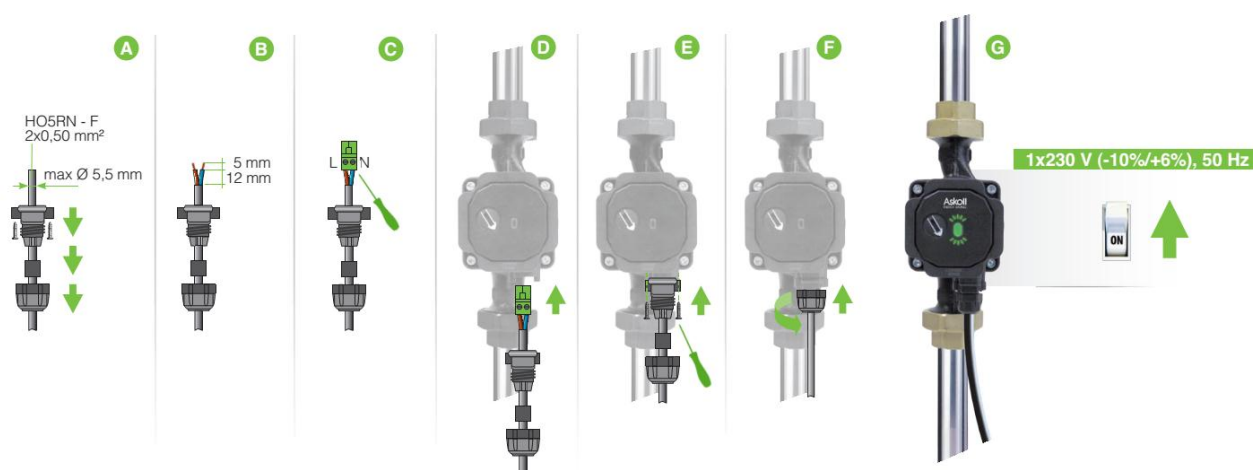

Fig. 8.1: Electric connection
1. Connect the power supply conductors to the terminals according to the diagram given in Fig. 8.1, from A to C.
2. Insert the terminal board in the proper seat, connecting the blue wire (neutral) with letter N and the black/brown wire (phase) with letter L. (Fig. 8.1.D).
3. Screw the two screws (Fig. 8.1.E - The tightening torque of the screws must correspond to a maximum value of 0,3 Nm).
4. Tighten the sealing nuts to the fairlead (Fig. 8.1.F - The tightening torque must correspond to a maximum value of 2 Nm).
5. The LED light, if lighted, indicates that the power supply is present. (Fig. 8.1.G).